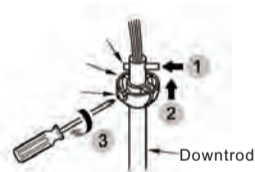

Fig.13
Step 7: Re-install the hanger ball on the downrod with the pin provided. (fig. 13)